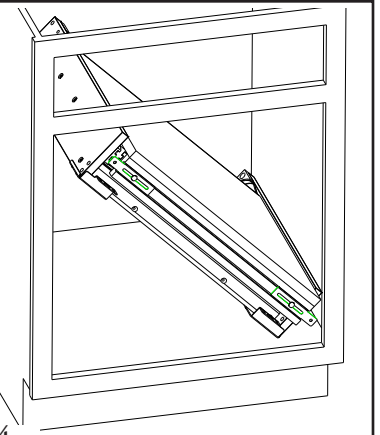

Fig. 4
5. Rotate table 45 degrees and insert into large opening of cabinet. Tilt table, raise up front end and rest front brackets on mid rail. Then raise up back end, extend back brackets against back of cabinet and rest on screws from previous step. (see fig. 4)